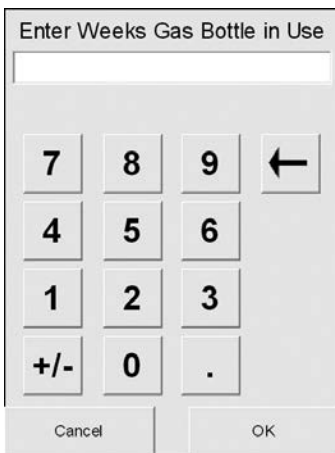

Fig. 6-27 Enter Number of Weeks in use
*NOTE: If you need to remove the gas bottle and reinstall it, respond **No** at the prompt **<New Gas Bottle?>**. You will then be prompted to enter the number of weeks in service using the numeric keypad (Fig. 6-27). Here you may refer back to the installation date, which was recorded on the gas bottle.*